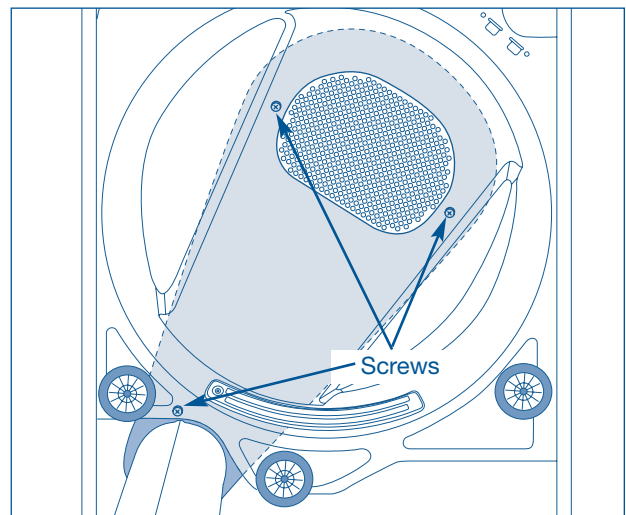

Figure 4-43.
3. From the inside of the inner panel, using a #2 square bit screwdriver and extract the screws securing the rear air duct to the rear inner panel. Pull the rear air duct from the rear inner panel. (See Figure 4-43)